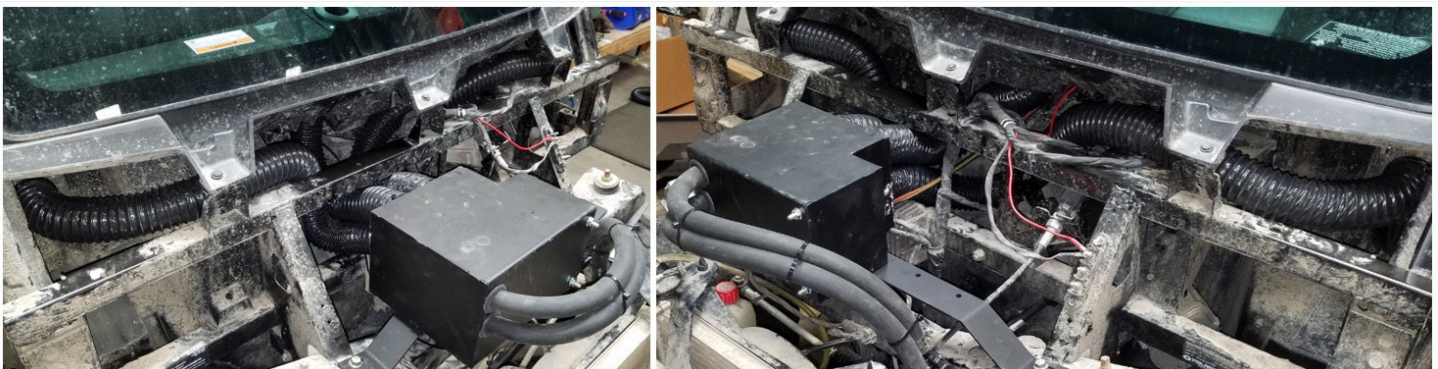

FIGURE 14
37. Route the 2" hoses as shown in **FIGURE 14** and secure each hose to the 55mm ports on the heater unit using zip ties.